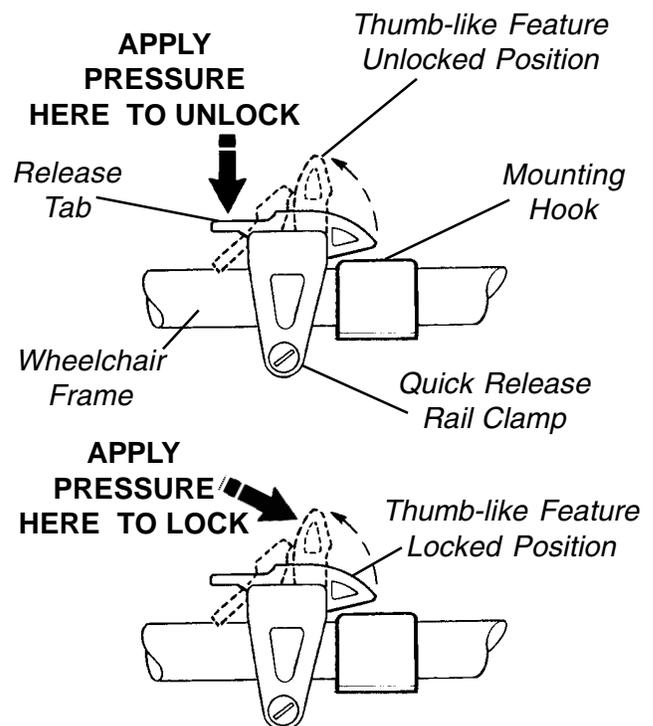

FIGURE 3 - INSTALLING/USING THE QUICK RELEASE RAIL CLAMP
INSTALLING/USING THE QUICK RELEASE RAIL CLAMP (FIGURE 3)
7. Position the quick release rail clamp so that the thumb-like feature locks down onto the mounting hooks of the seat as shown in FIGURE 3.